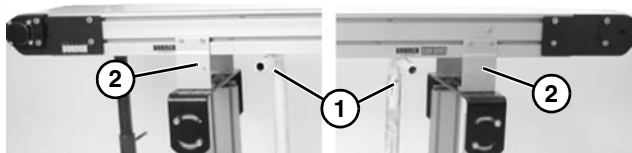

Figure 26
1. Place temporary support stands (**Figure 26, item 1**) at both ends of the conveyor.
2. Remove mounting brackets (**Figure 26, item 2**) from one side of conveyor. (Reverse steps 3 & 4 of "Mounting Brackets" section on page 7).